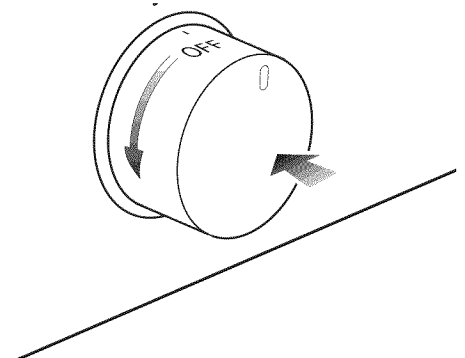

Fig. 3.3 Oven control knob
2) Press the oven control knob right down (the igniters will start 'clicking') turn the knob counter-clockwise (fig. 3.3) to max position 8.